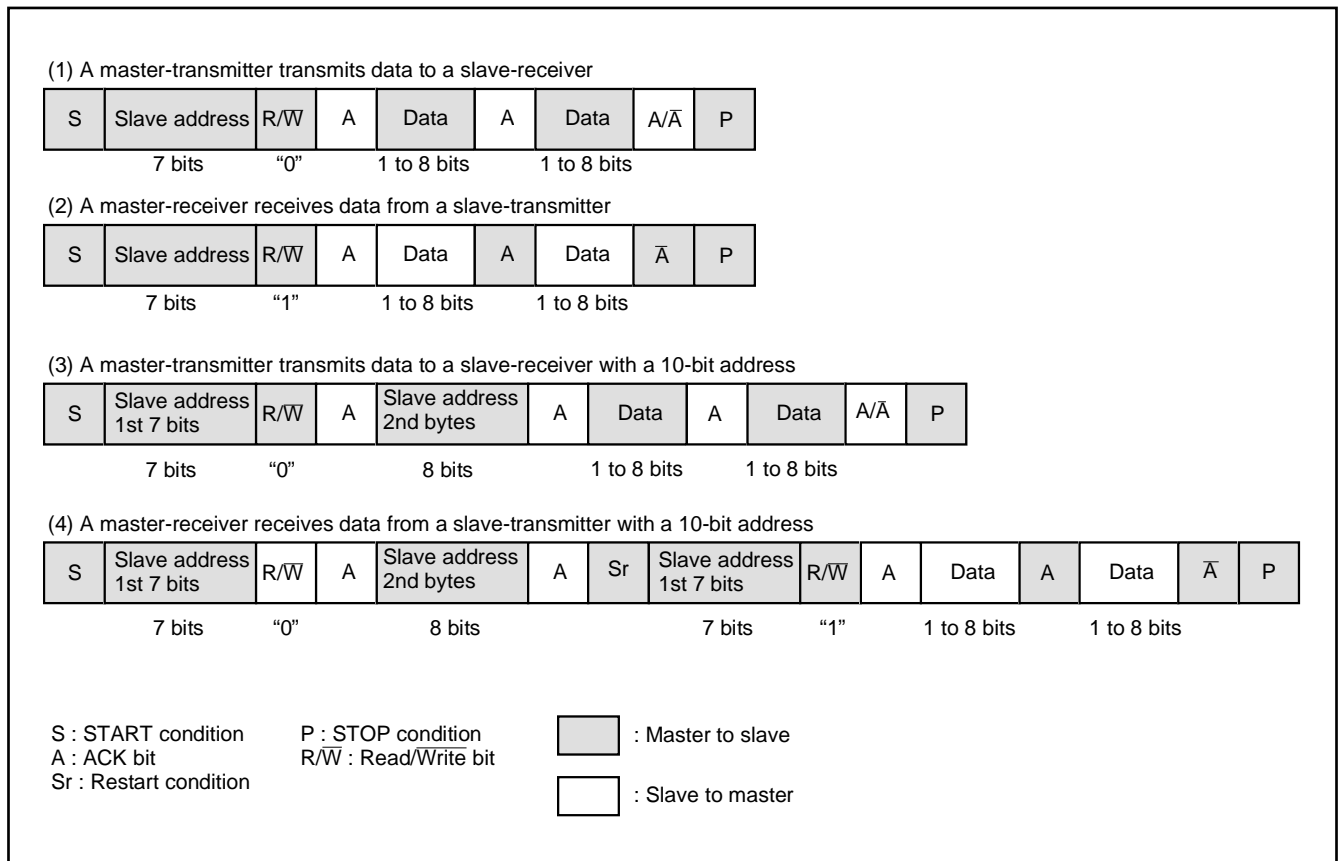

Fig. 77 Address data communication format
parison, an address comparison between the RWB bit of the I2C slave address register and the R/W bit which is the last bit of the address data transmitted from the master is made. In the 10-bit addressing mode, the RWB bit which is the last bit of the address data not only specifies the direction of communication for control data, but also is processed as an address data bit. When the first-byte address data agree with the slave address, the AAS bit of the I2C status register (S1: address 001316) is set to "1." After the second-byte address data is stored into the I2C data shift register (S0: address 001116), perform an address comparison between the second-byte data and the slave address by software. When the address data of the 2 bytes agree with the slave address, set the RWB bit of the I2C slave address register to "1" by software. This processing can make the 7-bit slave address and R/W data agree, which are received after a RESTART condition is detected, with the value of the I2C slave address register. For the data transmission format when the 10-bit addressing format is selected, refer to Figure 77, (3) and (4).